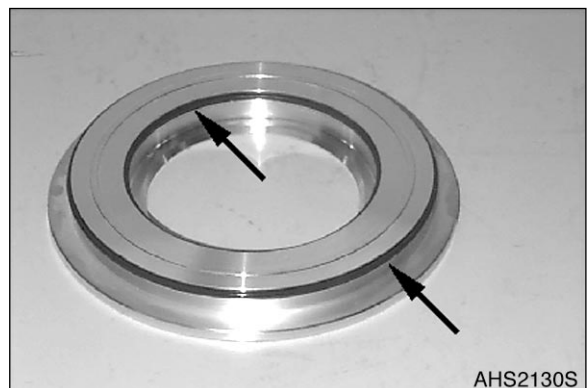

Figure 254
7. Lay both O-rings scrollfree into the ring grooves of the piston, see Figure 254.